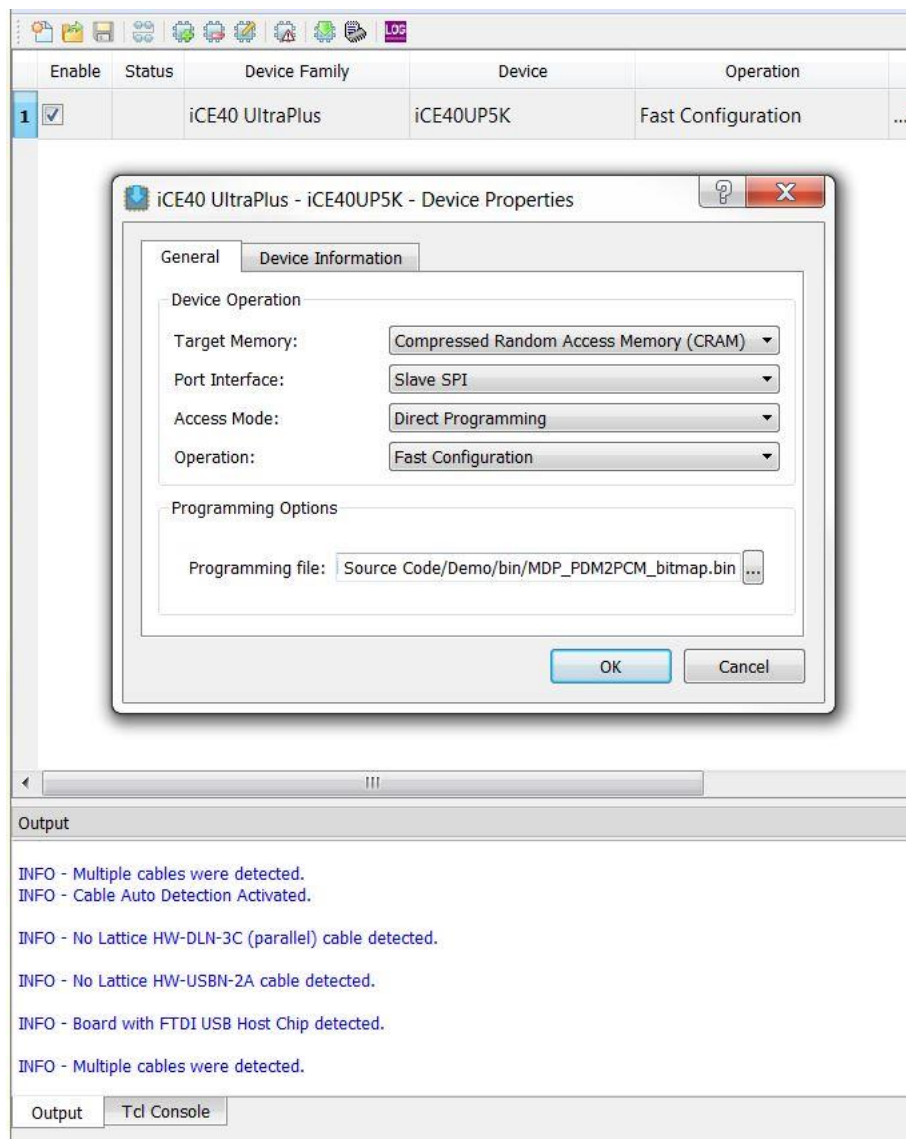

Figure 4.1. Device Properties
5. In the **Device Properties** dialog box, apply the settings as shown in Figure 4.1.